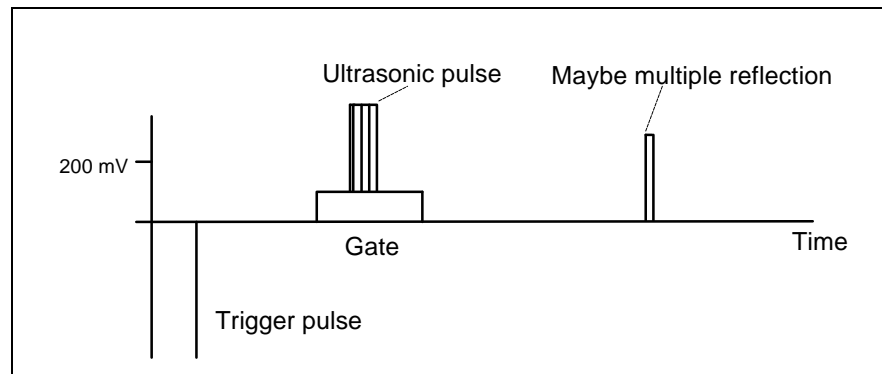

Figure 25: Signal at the test output with ultrasonic transmission on vessels
- If no echo pulses can be seen as illustrated in Figure 25, increase the transmission energy (P03) and/or the gain (P04) until ultrasonic signals are received continually.